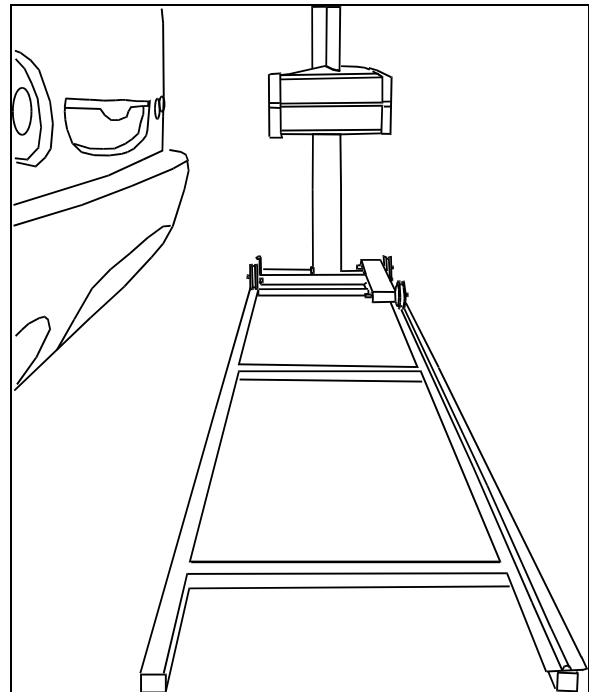

FIGURE 27: INSTALLATION OF HOOPY 100 ALIGNER
5. Install "Hoopy 100" Aligner onto support rail (Fig. 27).
- Install “Hoopy 100” Aligner onto support rail (Fig. 27). Turn aligner ON.